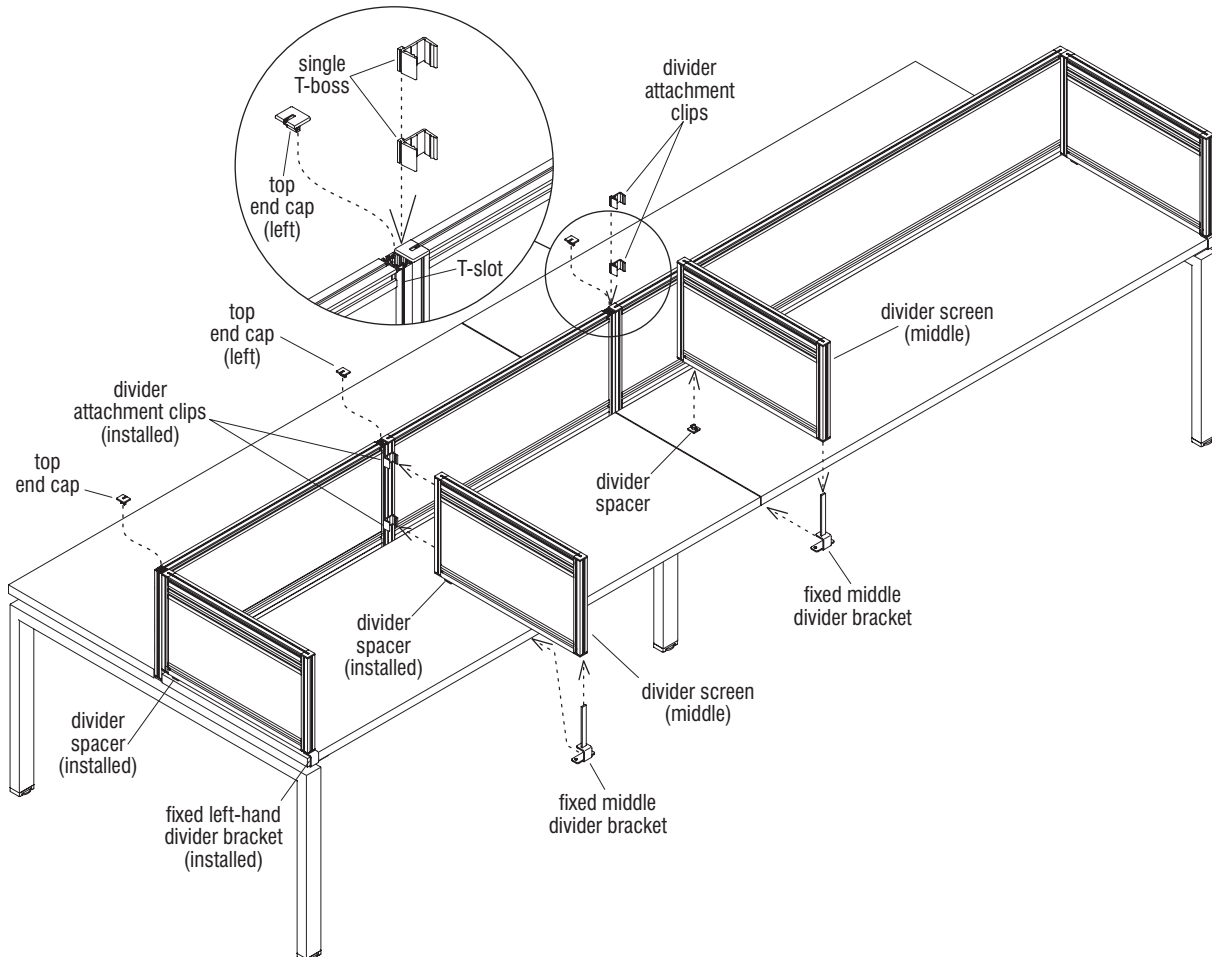

Figure 5 - Dual-Sided Benching - Center Divider Screen Installation
6. At each union of privacy screens to receive middle divider screens, correctly orient and slide the T-boss of two divider attachment clips down the T-slot (where top end cap was removed) and into position with one above the other as illustrated (Figure 5).
7. Locate and orient a "fixed middle divider bracket" as shown and slide the bayonet up into the hole at the bottom, front of the middle divider screen. Next, locate a "divider spacer", position it into the horizontal T-slot at the underside of the divider screen near the back and twist the spacer 90° to lock it in position (Figure 5).
9. Repeat the process for all middle dividers to be installed, then re-install all top end caps that were removed. Go back and adjust all divider spacers and divider attachment clips to be uniform along the run of benching (Figure 5).